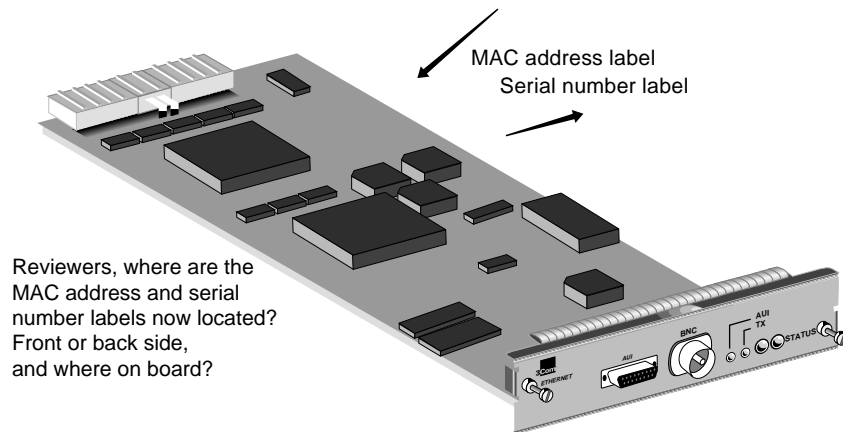

Figure 2-1 Serial Number and MAC Address on the Ethernet Module
- 4 Write down the serial number and the Media Access Control (MAC) address shown on the solder (back) side of the Ethernet board (see Figure 2-1).